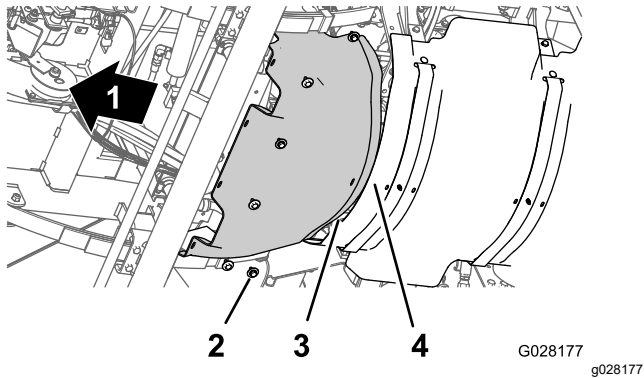

Figure 61
1. Align the rear flange of the forward heat shield over the forward flange of the rear heat shield (Figure 61).
2. Align the holes in the forward heat shield with the threaded holes in the chassis (Figure 61).
3. Assemble the forward heat shield to the machine with the 6 hex-head bolts and 6 washers (Figure 61) that you removed in step 3 of Removing the Forward Heat Shield (page 51).